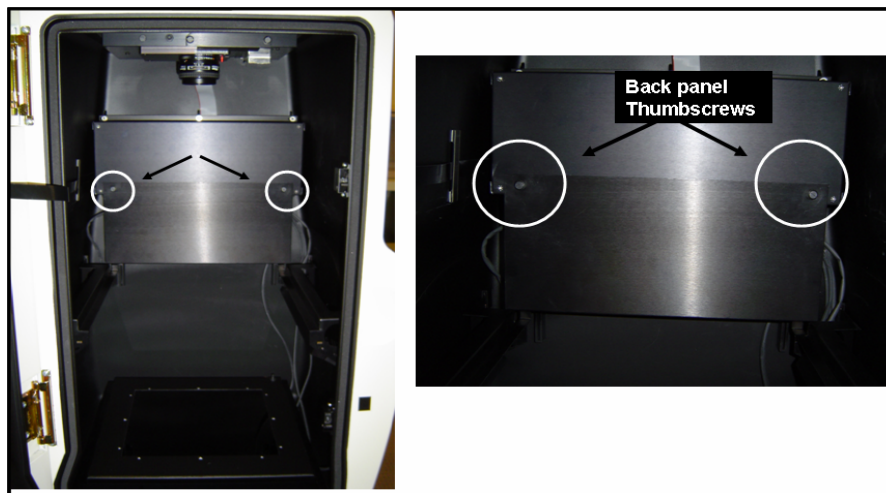

Figure 3.13.
1. Remove the ballast access panel by unthreading the two mounting thumbscrews (Figure 3.13).